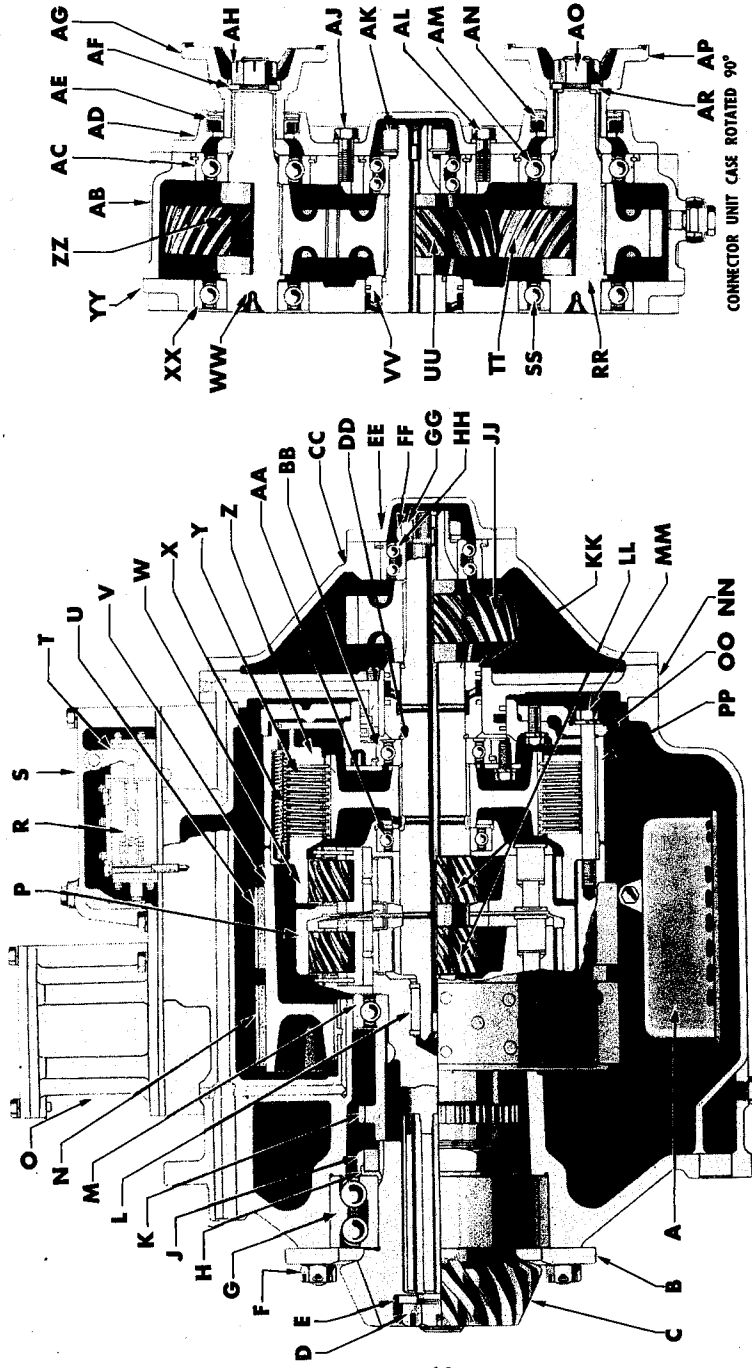

Figure 6 — Transfer Unit — Longitudinal Section
d. The connector gears which combine the torque are all of the same diameter and thus do not provide any reduction. The connector gear shafts are mounted in the case in single row ball bearings. The main shaft or input shaft into the transfer unit proper is mounted at its rearward end on a double row ball bearing and on its forward or inner end on a roller pilot bearing (L, fig. 6) in the counterbore of the transfer unit output shaft.
Legend for Figure 6 — Transfer Unit — Longitudinal Section